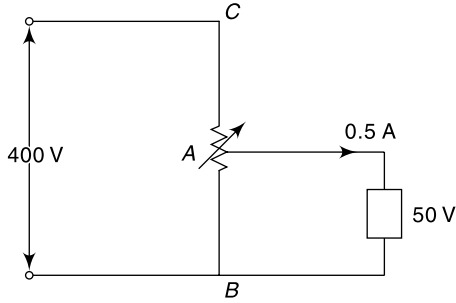

Fig. 14.24
14.53 A voltage of 400 V is applied to a variable rheostat of 800Ω . A load is connected as shown in Fig. 14.24. The load voltage is 50 V while the load current is 0.5 A. Determine the resistance between A and B and the total power consumed.